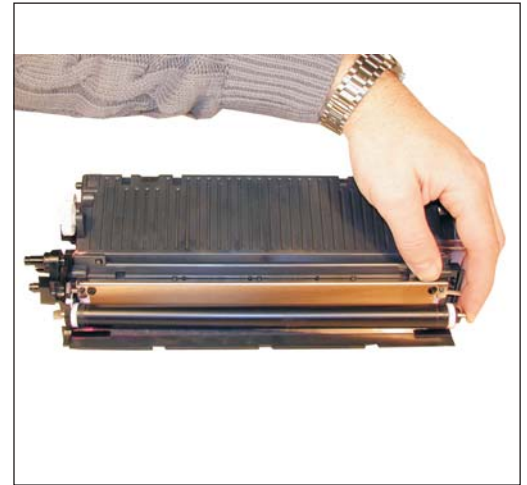

Figure 78
50) Wipe the developer roller down with a clean lint free cloth. Make sure the white spacers are clean. Install in the toner housing, keyed end to the gear side. See Figures 78 & 79